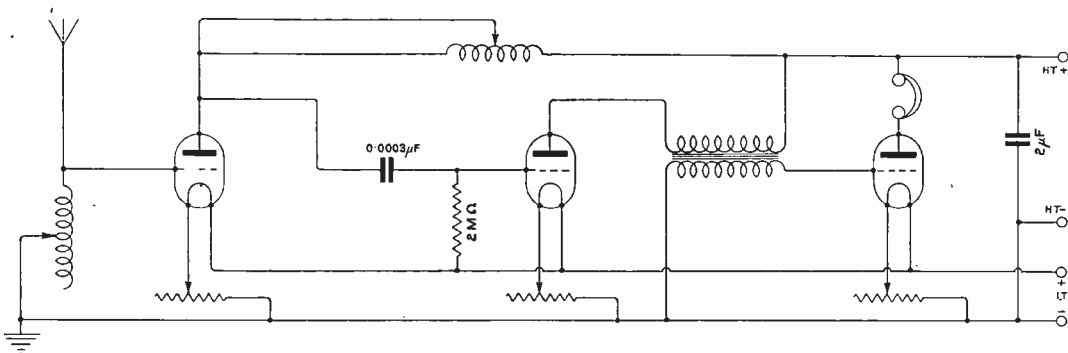

Fig. 2. A three-valve receiver with 1 H.F., 1 Detector and 1 L.F. valves. The H.F. valve is coupled with a self-tuned anode coil and a grid condenser and leak.
"VARIO" (Cambridge) asks (1) Referring to the circuit Fig. 2, page 548, January 20th issue, would it be more efficient to use variometers in the anode circuit in place of the tuned coils. (2) Would capacity reaction, used as indicated in the diagram submitted, be suitable. (3) With reference to a jamming eliminator (particulars of which are submitted) should it be expected that signals would be reduced if it is used. (4) Is one permitted to use the Armstrong super-regenerative receiver in connection with a small frame aerial to receive broadcast transmissions.
(1) If desired, variometers may be used in place of the tuned circuits, but it is not altogether recommended because tuning adjustments become very difficult. (2) Capacity reaction may be used as suggested. A small condenser having a maximum value of 0.00005 mfd. may be connected between A and B as indicated in your diagram. (3) Provided the eliminator mentioned is properly constructed fair results will be obtained, but it should not be expected that any wonderful improvement will take place, because it will not. The tendency, as suggested, is to shunt away useful energy, and one is generally better without such an arrangement. (4) We believe the P.O. will grant permission for an experimenter to use the Armstrong super-regenerative receiver in conjunction with a frame aerial but not for the reception of broadcasting.
(1) A suitable diagram is given in Fig. 2. (2) The larger sample of wire submitted is No. 34 S.S.C., and the finer wire is No. 42 enamelled.